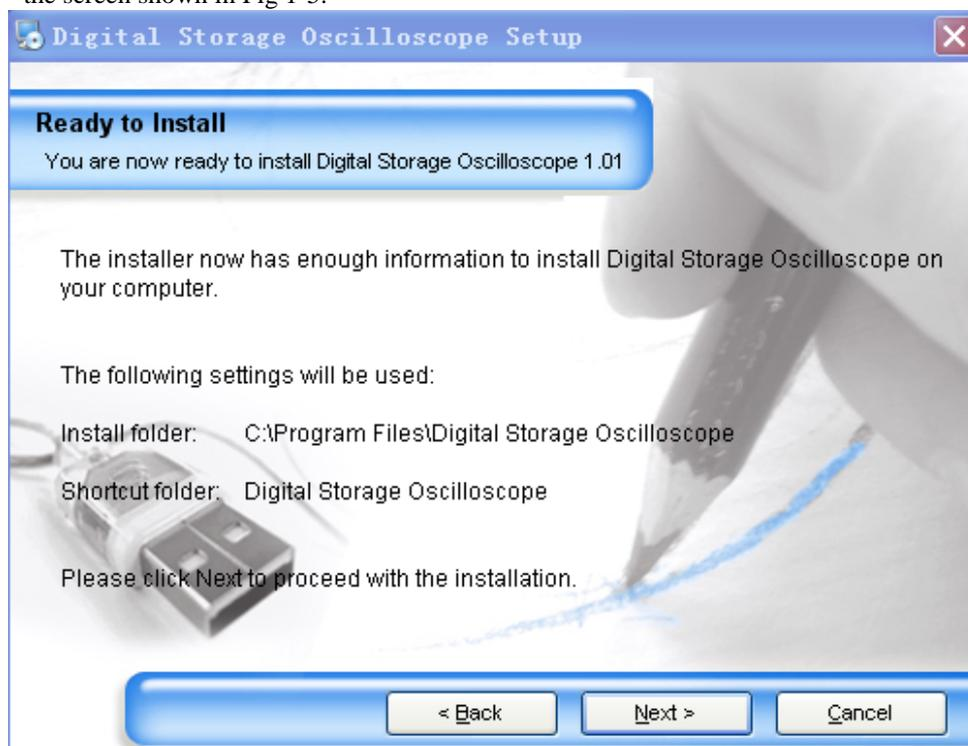

Fig 1-5
Step five : In Fig 1-4, click the [CHANGE (H) ...] button to specify the installation path of the software, then click [NEXT (N)]. You can also click [NEXT (N)] directly to use the default path. Enter the screen shown in Fig 1-5.
Step six : In Fig 1-5, after confirming the message is correct, click [NEXT (N)] to enter the front page for automatic installation, as shown in Fig 1-6.